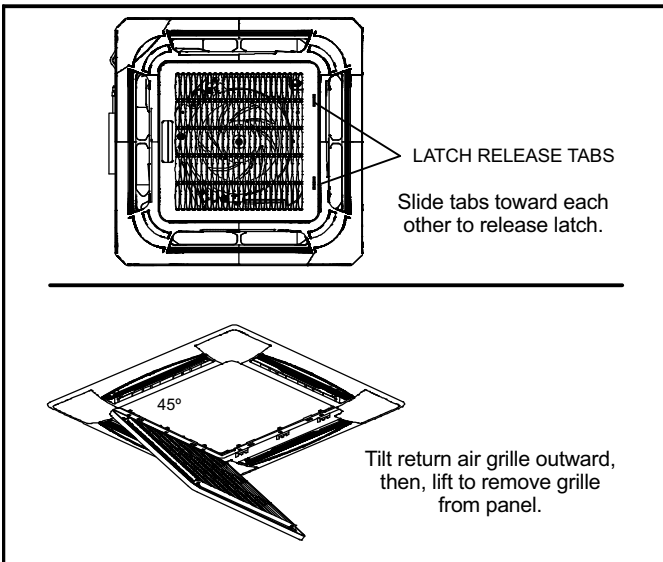

Figure 14. Remove Return Air Grille
- 2 - Slide the two grille latches toward each other at the same time to release the grille. See figure 14. Tilt the return air grille outward at a 45° angle (grille is held in place by tethers). Release the tethers and lift the grille away from the panel. Carefully place the return air grille off to the side.